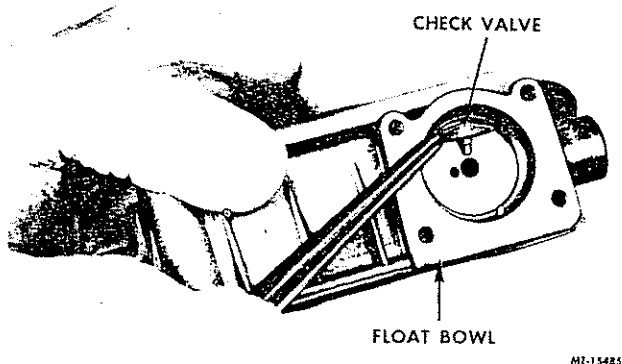

FIG. 31 — REMOVAL OR INSTALLATION OF THE PLASTIC PUMP INTAKE CHECK VALVE
13. Remove the plastic accelerator pump inlet check valve (Fig. 31).
1. Install plastic accelerator pump check valve in fuel bowl (Fig. 31), (if used).